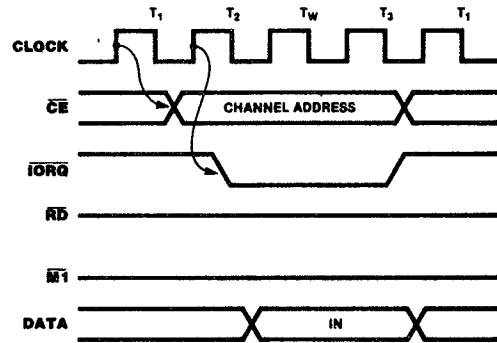

Figure 5b. Write Cycle
**Write Cycle.** Figure 5b illustrates the timing and data signals generated by a Z-80 CPU out-